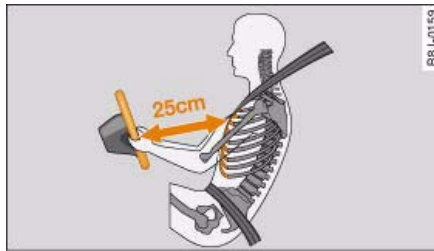

Fig. 190 Minimum distance from steering wheel
- It is important for the driver and front passenger to maintain a distance of at least 25 cm from the steering wheel or dashboard ⇒ *page 179, fig. 190*. The airbag system will not be able to give the required protection if you sit too close to the steering wheel or dashboard. There is also a risk of injury if the airbags are inflated. The front seats and head restraints must always be positioned correctly for the height of the occupant.